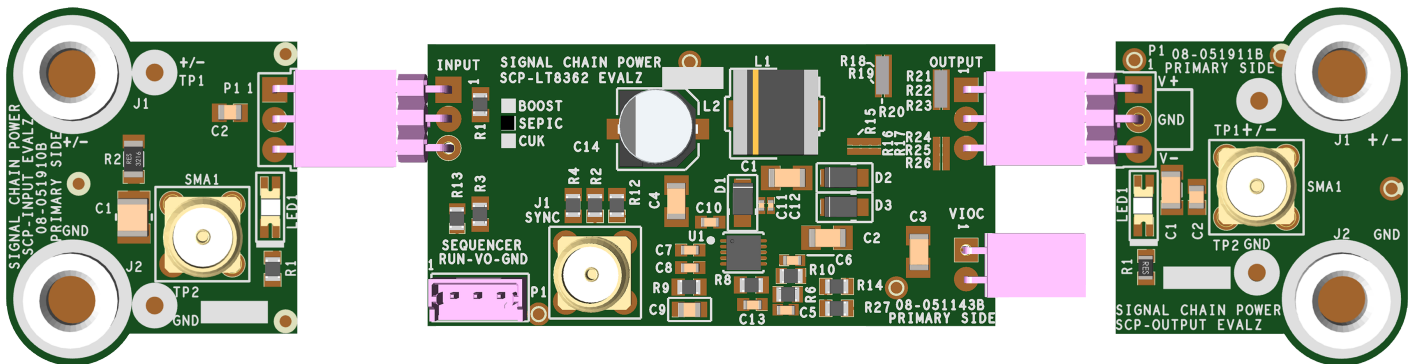

Figure 2. Proper Measurement Equipment Setup (Use SMA connectors for Measuring Input or Output Ripple)
2. Connect the SCP-INPUT-EVALZ and SCP-OUTPUT-EVALZ boards to the SCP-LT8362-S-EVALZ (refer to Figure 2) and connect the input board to a voltage source, V_{SOURCE} . Connect the output board to a voltmeter or dynamic load. Slowly raise the input voltage until the SCP-LT8362-S-EVALZ powers up into regulation and sweep V_{SOURCE} through the desired range of operation.